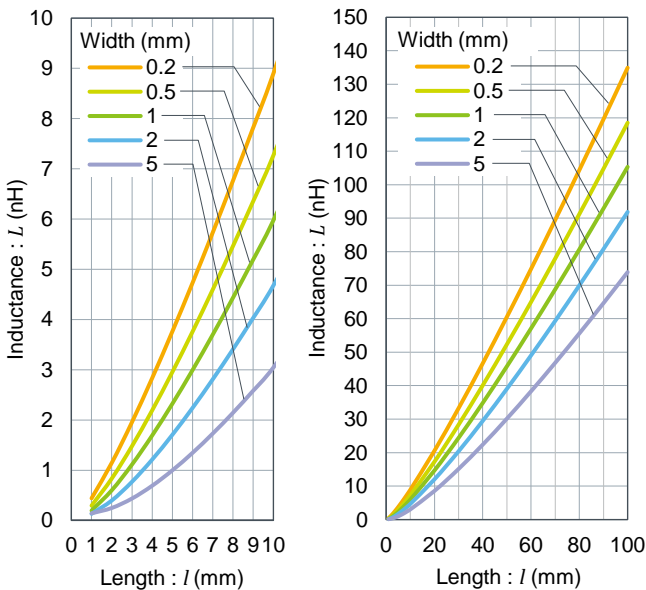

Figure 5. Inductance of copper foil wiring
The inductance value of the copper foil wiring can be estimated with Equation (2). Typical calculation results are shown in Figure 5.
Since even a few nH of parasitic inductance can have an impact, refer to Equation (2) and Figure 5 for the value. Increasing the wiring width is also an effective method to decrease the value.